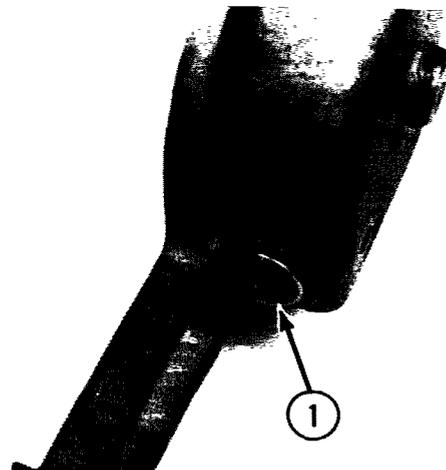

Fig. 2-35
- (16) Pull the oil seal (1, Fig. 2-35) out of the transmission case.
- (11) Install the oil seal (1, Fig. 2-35) in the transmission case.